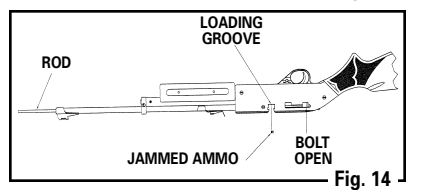

Fig. 14
- With the air rifle "On Safe", open the bolt by pulling it all the way back, insert a ramrod into the barrel and carefully push the jammed pellet or BB into the loading groove. Do not try to reuse that pellet (Fig. 14).